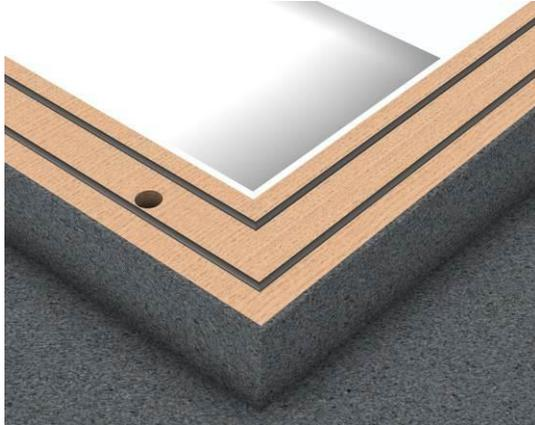

Figure 3 - Silicone placement
2. Apply two large runs of silicone (supplied in installation kit) approximately 50mm in from the inner and outer faces of the kerb as shown in *Figure 3*.